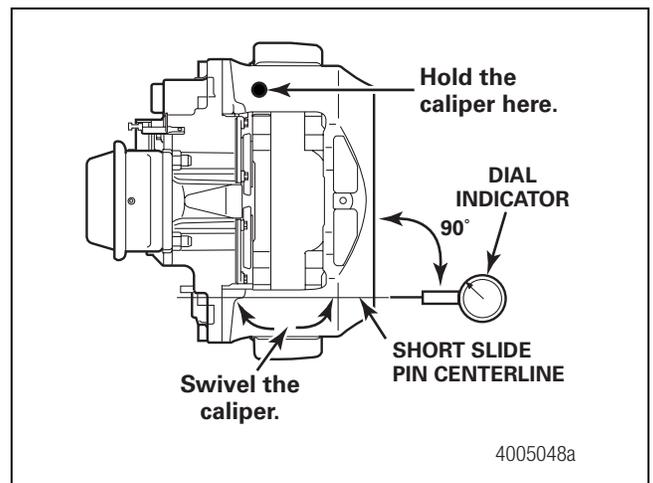
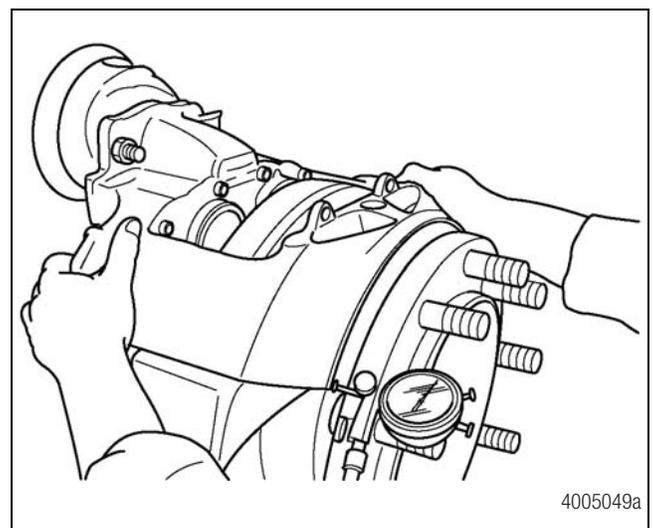

Figure 4.12
Figure 4.13
1. With the pads removed, pull the caliper housing assembly OUTWARD toward the wheel flange. Attach a dial indicator so that it is in line with the centerline of the short slide pin. Attach the indicator to the hub. Figure 4.12.
2. Hold the caliper so that it cannot move. Swivel the caliper until it stops in one direction. Set the gauge to ZERO. Figure 4.12 and Figure 4.13.
3. Move the housing in the opposite direction until it stops. Figure 4.13. The maximum acceptable reading is 0.118-inch (3 mm).